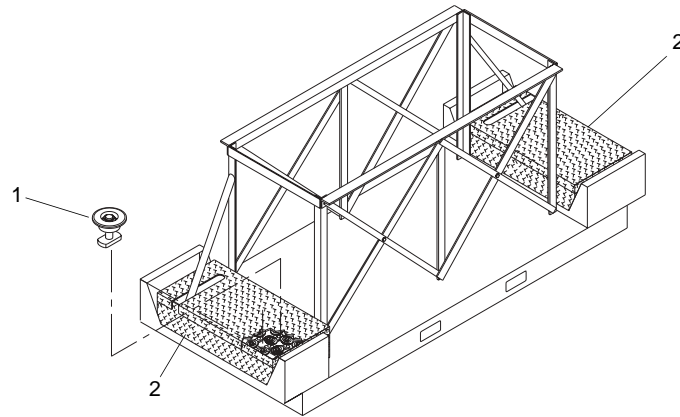

Figure 32. Deck Mat Lockdown Assembly Stowage
14. Place all deck mat lockdown assemblies (figure 32, item 1) in container toolboxes (figure 32, item 2).